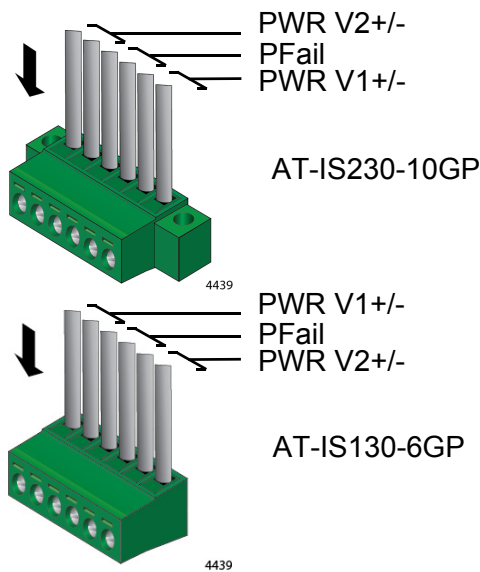

Figure 40. Insert Power Supply and Alarm Wires into Power/Alarm Connector
- Insert the power wires into the wiring slots for V1+ and V1- for the first power supply. If you are installing the wires for a second power supply, insert them into wiring slots V2+ and V2-. Insert the two alarm wires in the two middle wiring slots - pins 3 and 4. There is no polarity for the alarm wires. Refer to Figure 40.